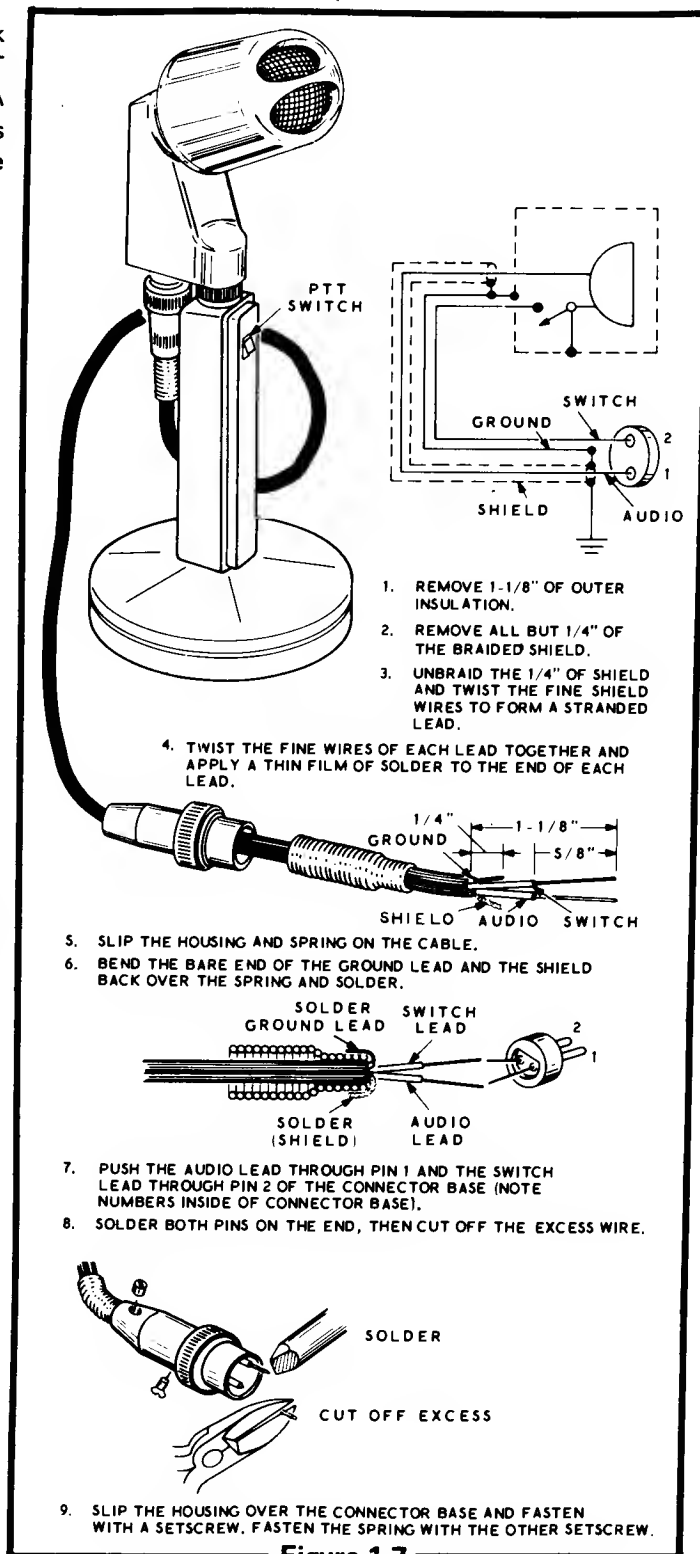

Figure 1-7
- ( ) Perform the numbered steps in Figure 1-7.
If you use a microphone different than the one shown, connect the lead from the microphone element to pin 1 of the connector. If the microphone has a PTT switch, connect this lead to pin 2. Shield wires, to complete the ground side of the circuit, should be soldered to the spring as shown in Figure 1-7.